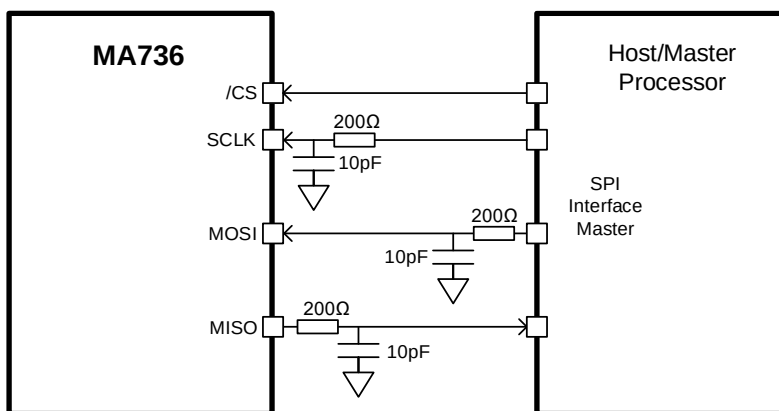

Figure 7: Example of RC Low-Pass Filter on SPI Signals
- Place an RC low-pass filter on SCLK, and close to the sensor. It is recommended to use a 200Ω serial resistor with a 10pF shunt capacitor to create a filter with a cutoff frequency of about 80MHz (see Figure 7).